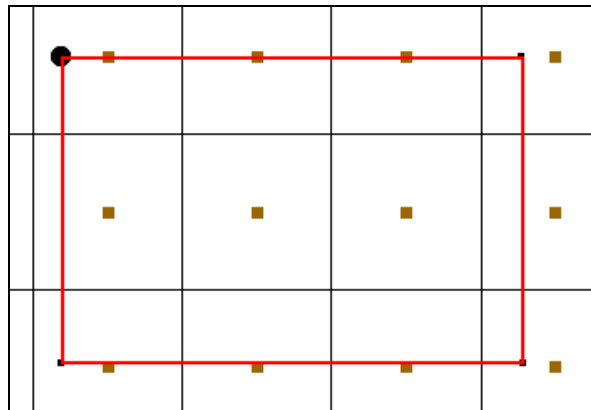

Figure 4 Arc created on boundary of local model
3. Using the **Create Arc**  tool, create a single arc forming a rectangle directly on top of the red rectangle (Figure 4). If the red rectangle isn’t visible, turn on “Annotation Data” in Project Explorer.